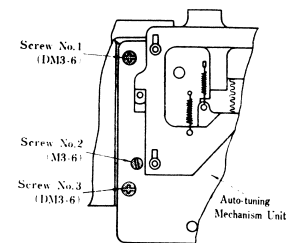

Fig. 4
4. Remove two (2) auto-tuning mechanism unit mounting screws, Nos. 1 & 3, as illustrated in Fig. 4.
To Remove Tuning Gang (Refer to Figs. 4, 5, 7 & 8)
4. Remove tuning gang bracket mounting screw, No. 2, as illustrated in Fig. 4.